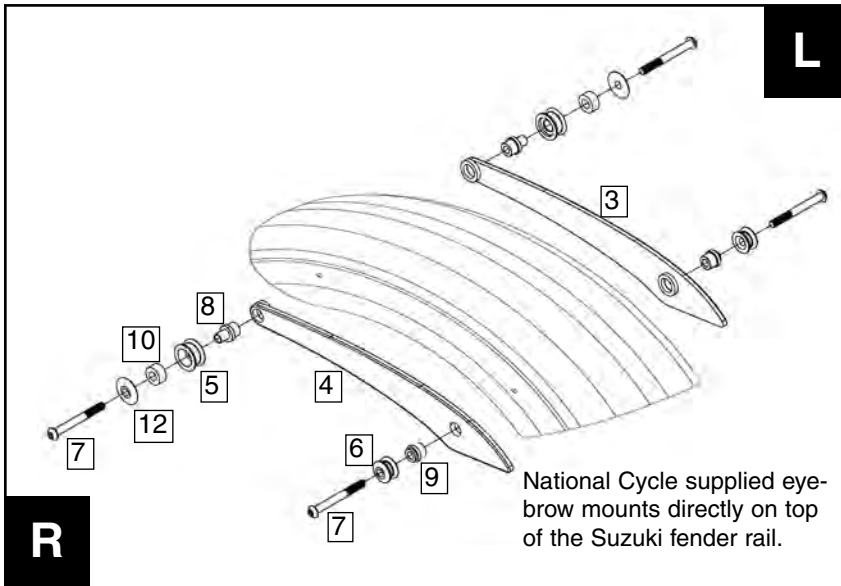

Figure 1
2. Assemble Front Spool assembly into the Right Eyebrow (item 4) and through the fender. Do not fully tighten. Repeat for Rear Spool assembly. Do not fully tighten. This will allow some movement, which aids in the Side Plate installation. **(5mm Hex Wrench) Figure 1.**